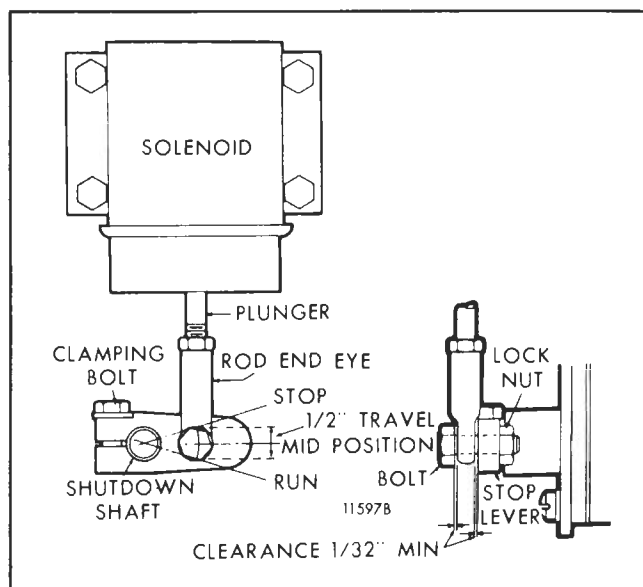

Fig. 4 - Typical Variable Speed Governor Lever Position
1. Remove the bolt connecting the rod end eye (variable speed governor) or the right angle clip (limiting speed governor) to the stop lever (Figs. 4 and 5). Align and clamp the lever to the shutdown shaft in such a way that, at its mid-travel position, it is perpendicular to the solenoid plunger. This assures that the linkage will travel as straight as possible. The solenoid plunger has available 1/2" travel which is more than adequate to move the injector control racks from the full-fuel to the complete no-fuel position and shut down will occur prior to attaining complete travel.